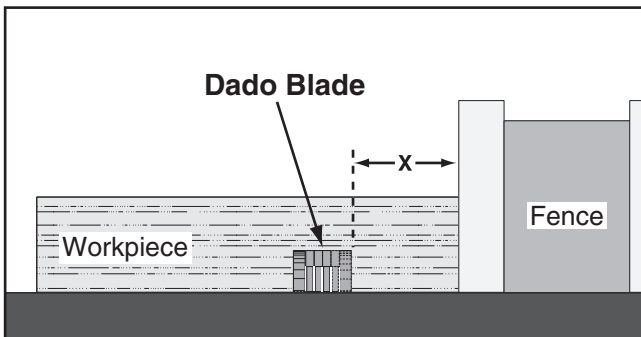

Figure 57. Example of a dado being cut with a dado blade.
4. Adjust distance between fence and inside edge of blade, as shown in **Figure 57** on **Page 37**, to dado length of a workpiece.